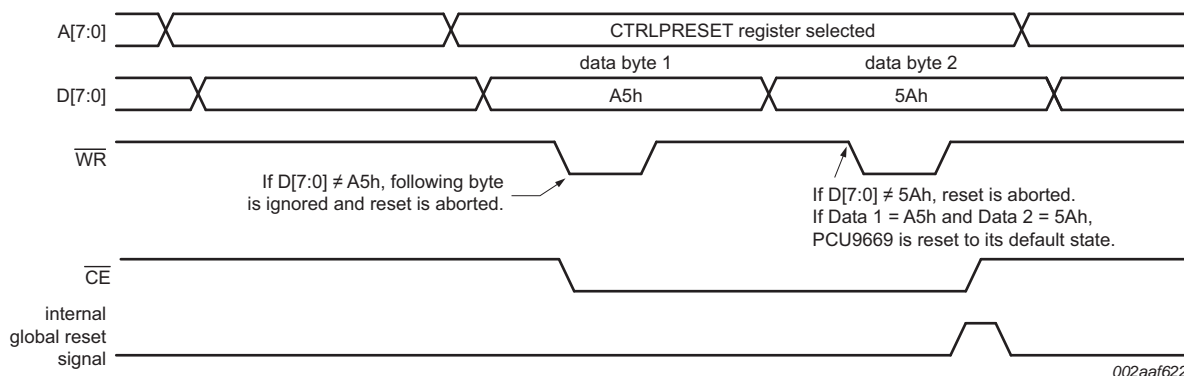

Fig 12. Parallel Software Reset sequence
- By using the Parallel Software Reset sequence as described in Figure 12. The host must write to the CTRLPRESET register of the target channel in two successive parallel bus writes to the bus controller. The first byte is A5h and the second byte is 5Ah.